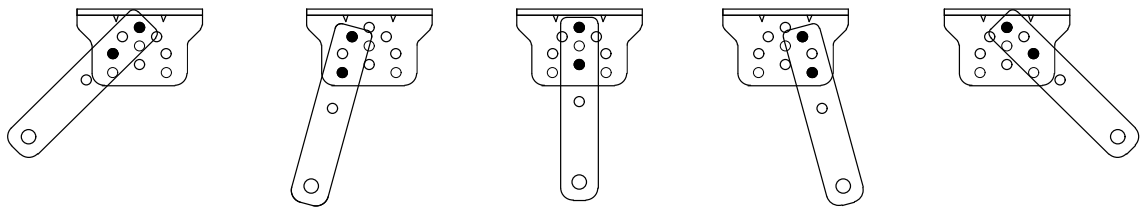

Figure 6
B) The connecting bracket and the wall bracket can be connected according to different conditions, please refer to figure 6.